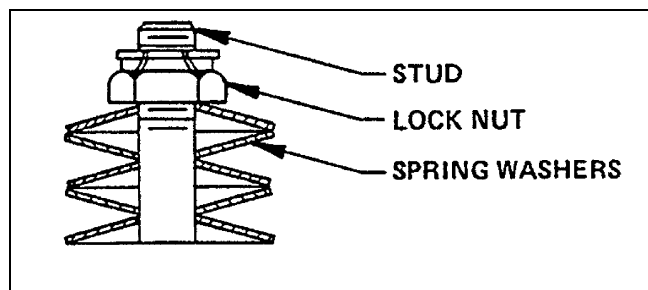

Figure 4—Spring Washer Stackup
6. Place the spring washers on the plug stud as shown in Figure 4.
5. Place the spring washers on the plug stud as shown in figure 4.